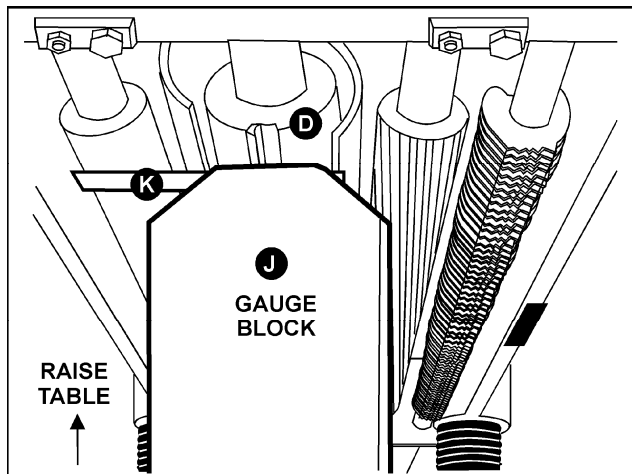

Figure 32
2. Turn the handwheel clockwise, raising the cutterhead assembly high enough to place the gauge block (J, Fig. 32) on the table directly underneath the cutterhead (D, Fig. 32). Using a 0.02" (0.5mm) feeler gauge (K, Fig. 32) placed on top of the gauge block, lower the head assembly until the knife just touches the feeler gauge when the knife is at its lowest point. Do not move the working table any further until the infeed and outfeed rollers are adjusted.